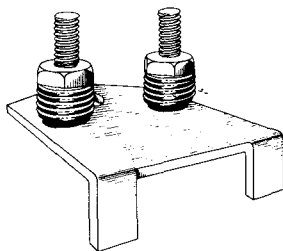

Fig. 58—6A Ground Strip
7.07 The 6A ground strip (Fig. 58) is intended for use in 25-pair NC, NF, and NH cable terminals